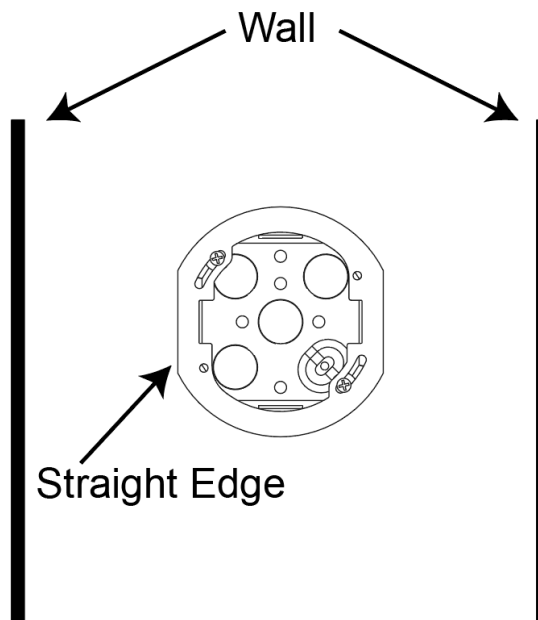

Figure 3
4. Use the **#8 Screws** provided to secure the Mounting Bracket flush to the ceiling by fastening it to the Junction Box. If installing a Square Slimform, use the straight edges of the mounting bracket to assist with alignment of the fixture. To align a square fixture parallel to a particular wall, **ensure that the straight edge of the bracket runs parallel with the wall**, as shown in *Figure 3*